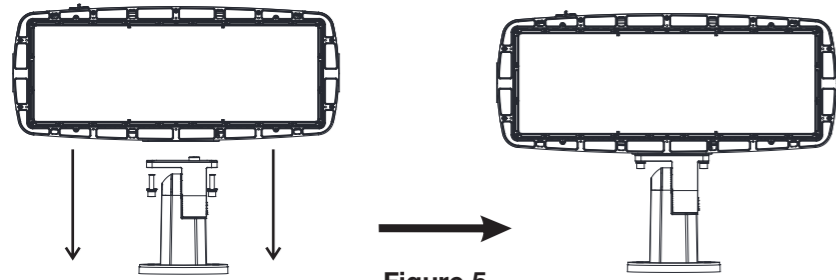

Figure 5
Install the fixture head onto the universal mount by aligning the studs on the mount with the opening on the bottom of the fixture. (Fig. 5)
- Install the fixture head onto the universal mount by aligning the studs on the mount with the opening on the bottom of the fixture (Fig. 5)